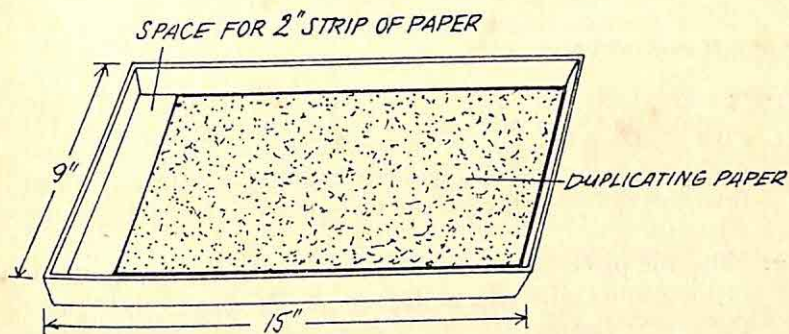

Figure 105
6. To prevent the gelatin surface from being scratched by finger nails when you lift off the papers, place a 2-inch strip of paper across one end (shown in Figure 105).